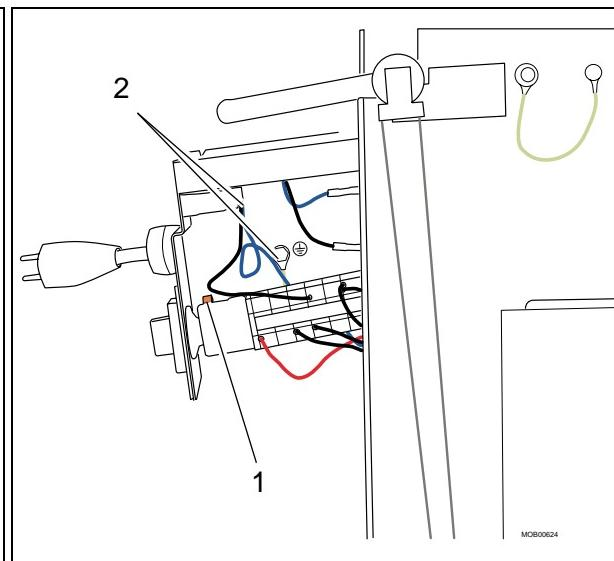

Fig. 3
- Disconnect main switch element by turning the red lock counterclockwise (pos. 1 / Fig. 3).
- Disconnect wires at U9/U10 and ground connection (pos. 2 / Fig. 3).